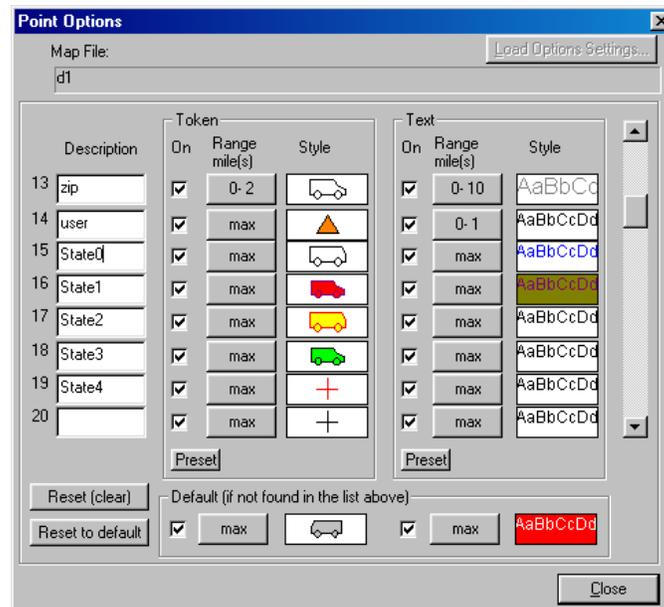

Fig. 6 Setting vehicle state tokens
5. The dialogue window shown in Fig. 6 will be opened.